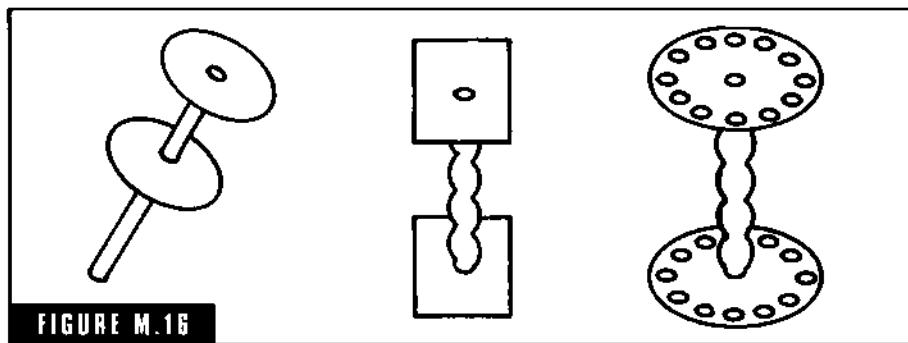

FIGURE M.16
**motor chaplets** A riveted head. Round or square-headed chaplet. Some have a round head on one end and square head on the other end. Others have a sprig or peg on one end to locate it in a hole in a core (Fig. M-16).